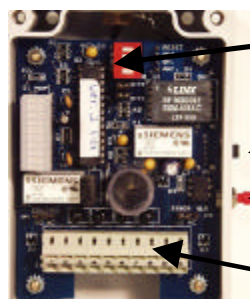

figure 3
- To attach the 12VDC power source, locate the terminal port on the Single Port Receiver.(see fig.3). Using a small flat head screwdriver, press on the arm of the jack labeled "-" and insert the negative lead into the jack. Do the same for the jack labeled "+" and insert the positive lead into the jack. On the small 12VDC power supply furnished by General Sensors, Inc., the terminal labeled "1" is +12VDC, terminal "4" is the negative lead. Terminal "2" is ground from the 110VAC if you wish to connect ground to the Single Port Receiver.
and are numbered 1 through 10 (see fig.3).